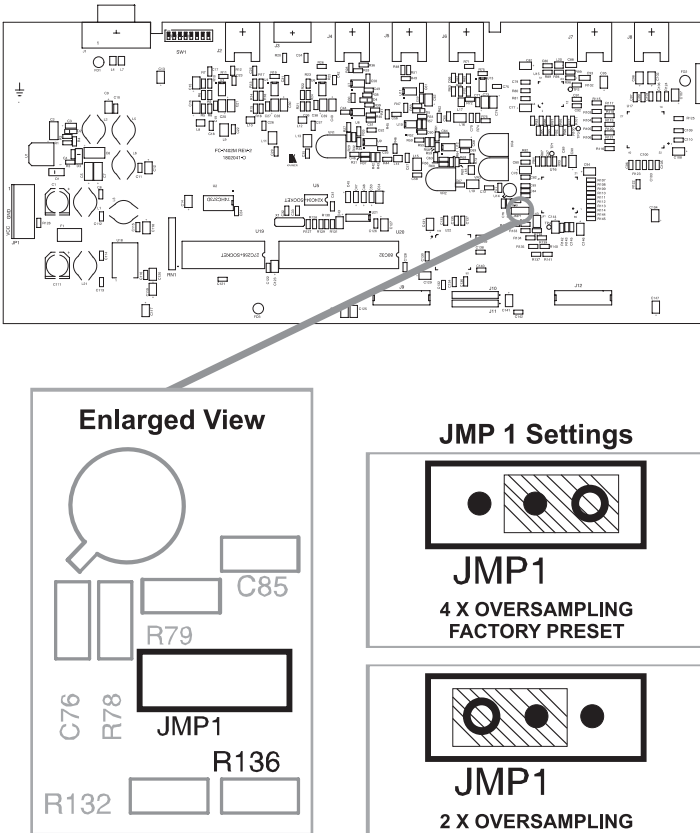

Figure 4: Adjusting Oversampling to x2 (Moving Jumper JMP1)
2. Open the **FC-7402** unit and move Jumper JMP1 to the left (see Figure 4).